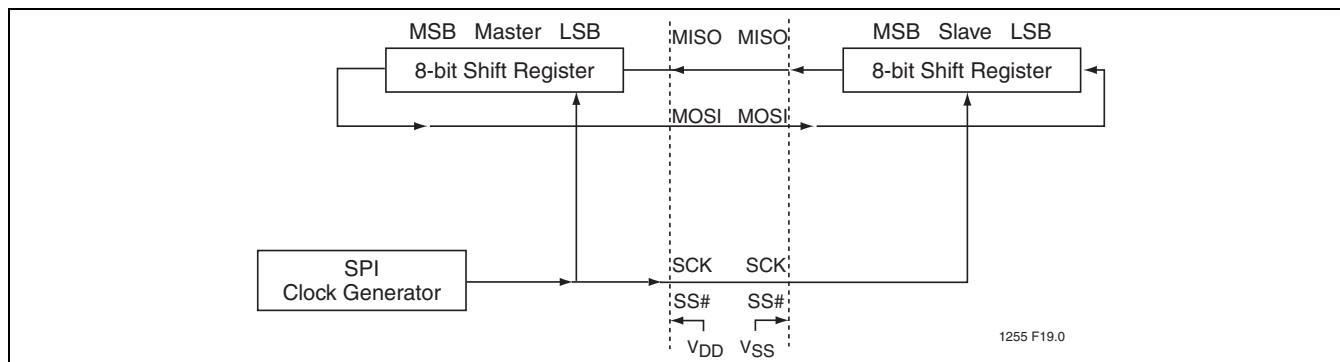

FIGURE 6-4: SPI Master-slave Interconnection
Figure 6-4 shows the correspondence between master and slave SPI devices. The SCK pin is the clock output and input for the master and slave modes, respectively. The SPI clock generator will start following a write to the master devices SPI data register. The written data is then shifted out of the MOSI pin on the master device into the MOSI pin of the slave device. Following a complete transmission of one byte of data, the SPI clock generator is stopped and the SPIF flag is set. An SPI interrupt request will be generated if the SPI Interrupt Enable bit (SPIE) and the Serial Port Interrupt Enable bit (ES) are both set.